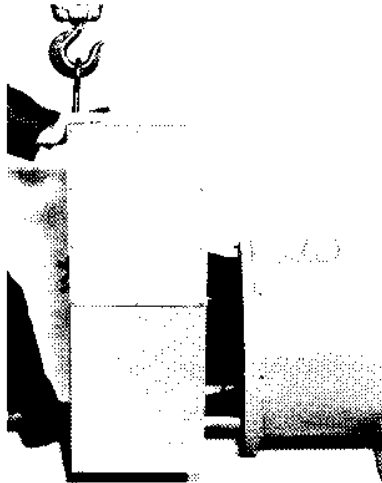

FIGURE 6-76
1. Install the conduit box over the main stator leads (be sure leads are in upper compartment). Secure with bolts and lock washers. (Figure 6-76 and 6-77.)